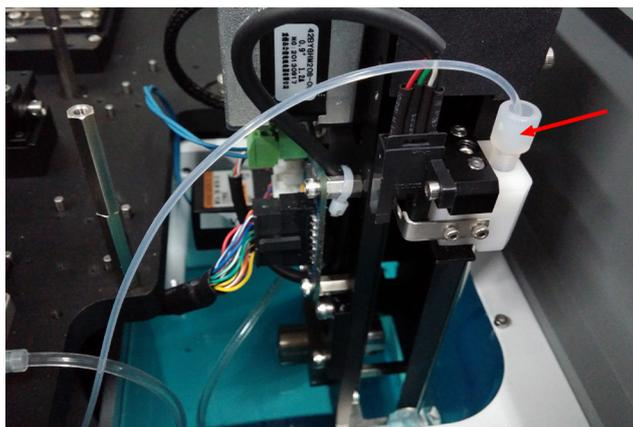

Figure 4-18 Remove the SIP from the Instrument
- 3 Unscrew the connector to the SIP and remove the SIP from the instrument (Figure 4-18);